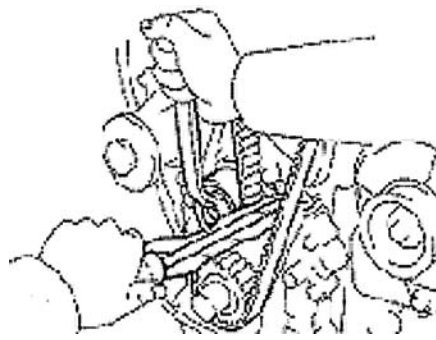

Figure 43
- (b) Install bolt to the idler pulley. Move pulley to its far left and tighten it temporarily (See Figure 43).